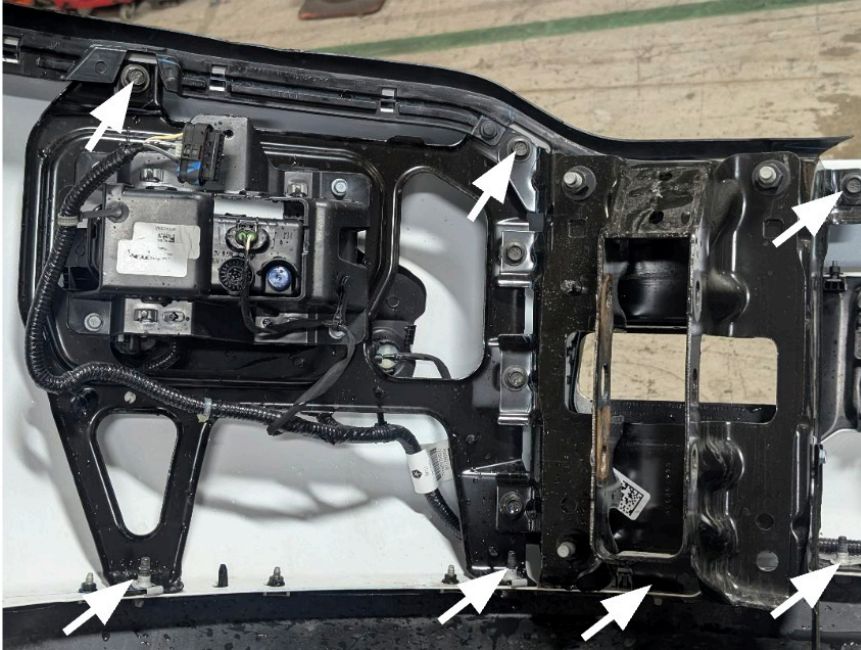

Figure 10
11. Use a 13mm socket to remove the 7x bolts per side of the inside bumper mounts. [Figure 10]